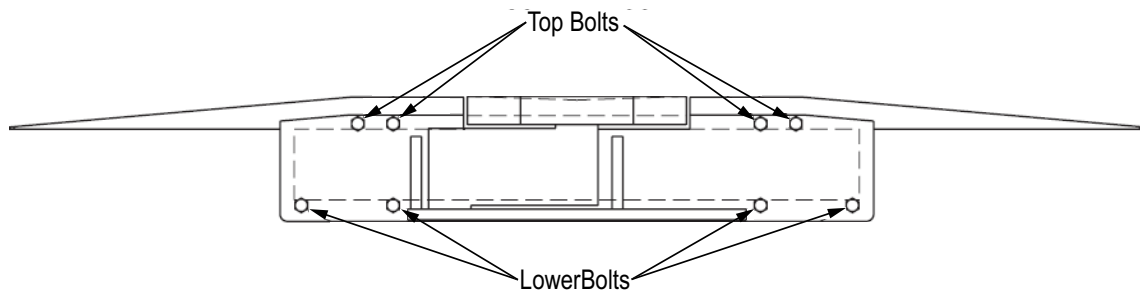

Figure 2-3. Top and Lower Bolts of Scale Mounting Bracket
2. Loosen the four top bolts (Figure 2-3 on page 8) of the scale bracket.
3. Remove the four lower bolts (Figure 2-3 on page 8) of the scale bracket.